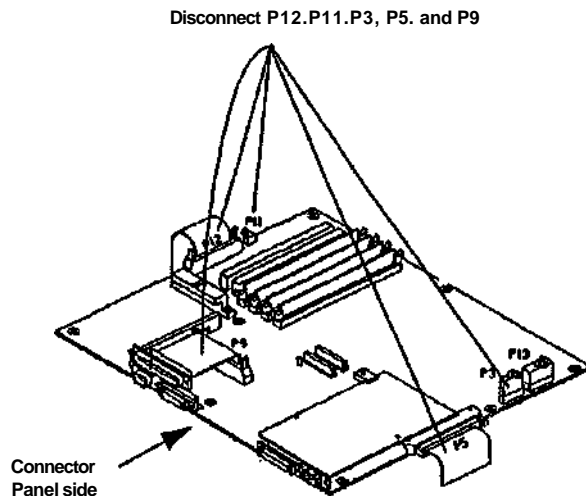

Figure 5 Disconnecting the connectors from the MCB and PMC PWB
10. (Figure 5): Set the 8830 Controller on a table top with the Inside of the module facing up. Disconnect P12, P11, P3, PS, and P9 from the MCB and PMC PWB.